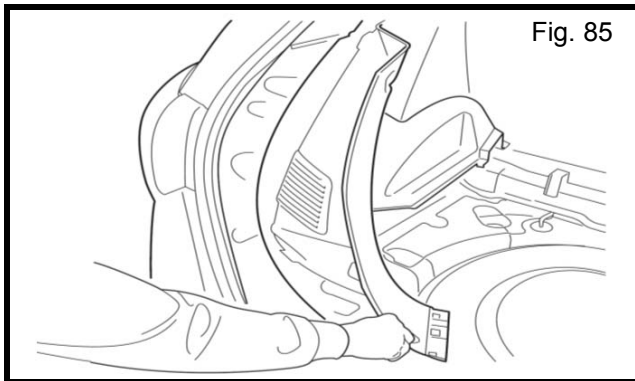

Fig. 85
a) Gently move the trim panel away from the body as shown in Fig. 85.